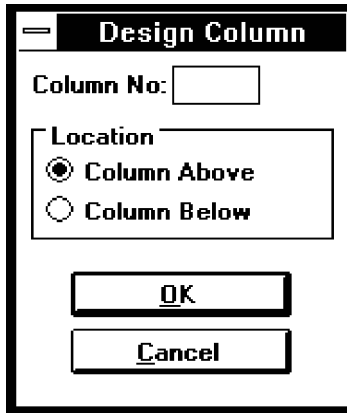

Figure 4-25—The Design Column dialog box
- From the **Design** menu, select **PCACOL**. The dialog box of Figure 4-25 appears.